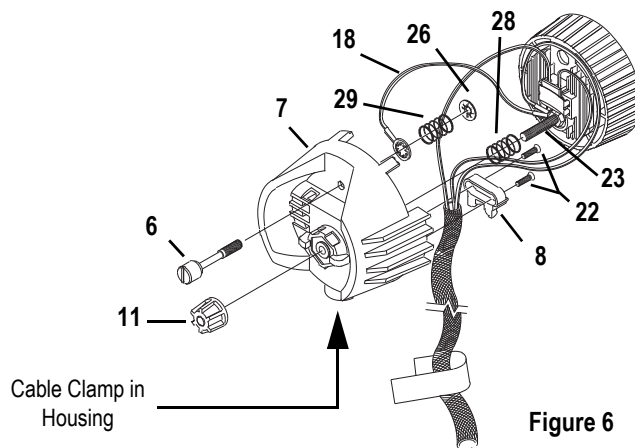

Figure 6
- Step 10: Insert the knurled head screw (6) through the housing socket (7) casting as shown in Figure 6.
- Step 11: Install the shorter green ground wire (18) onto the screw. The prongs on the crimped connector should be toward the casting.
- Step 12: Install the ground spring (29) onto the screw and secure it with the Southco flat retaining ring (26). Install the Southco ring with its prongs away from the casting.
Step 16: Place the compression spring (28) on the protrusion on the inside of the index hub. See Figure 6.
Step 17: Insert bolt (23) through spring (28) and through the index hub (4) of the housing socket (7), joining the two castings as shown in Figure 6. Make sure wires are not pinched between the two pieces.
Step 19: Press the two castings together firmly so the bottom of the light baffle (3) sits on top of the cable clamp (8), then install Z lamp knob (11). Hand tighten the knob all the way to the right. See Figure 6.